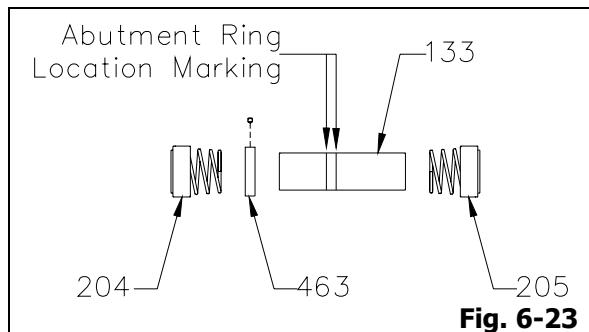

Fig. 6-23
- Remove two (2) abutment ring jam nuts from abutment ring (463). Remove rotary portion of pump end and atmospheric end mechanical seal (204 and 205) and abutment ring (463) from shaft sleeve (133) (Fig. 6-23).